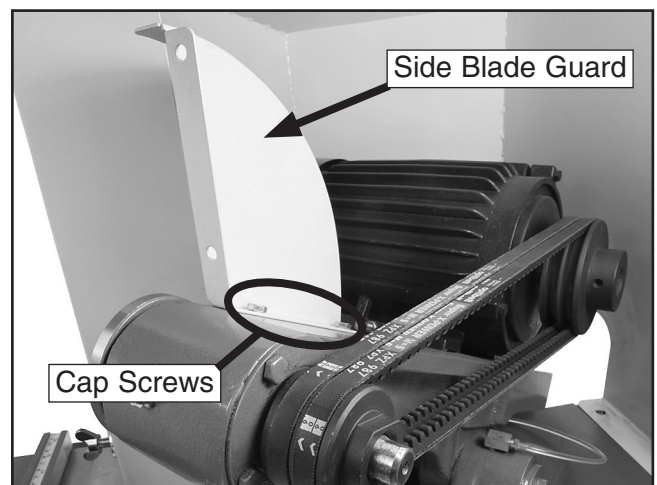

Figure 41. Side blade guard and cap screws.
4. Use a 10mm hex wrench to remove the two cap screws, lock washers, and the side blade guard (see **Figure 41**).